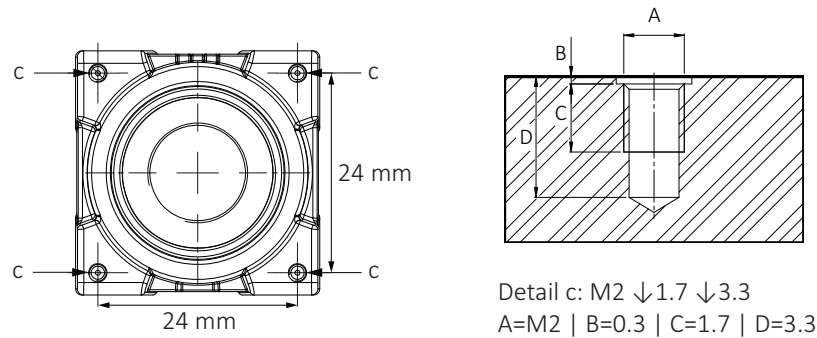

Figure 39: Camera front with mounting threads (c)
1. Mount the camera to the base using suitable M2 screws at 0.17 Nm maximum torque for a thread engagement (C) of 1.7 mm between screws and mounting threads, see Figure 39. For technical drawings, see Dimensions and mass on page 123.